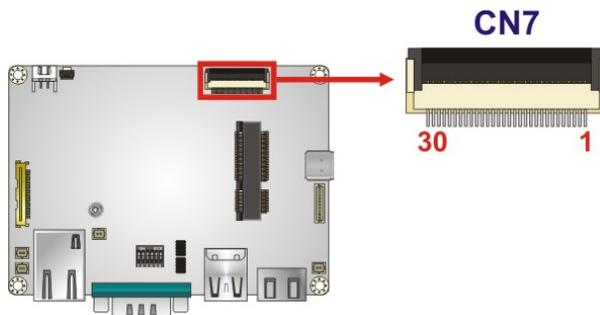

Figure 3-5: Camera Connector Location
- CN Location:** See **Figure 3-5**